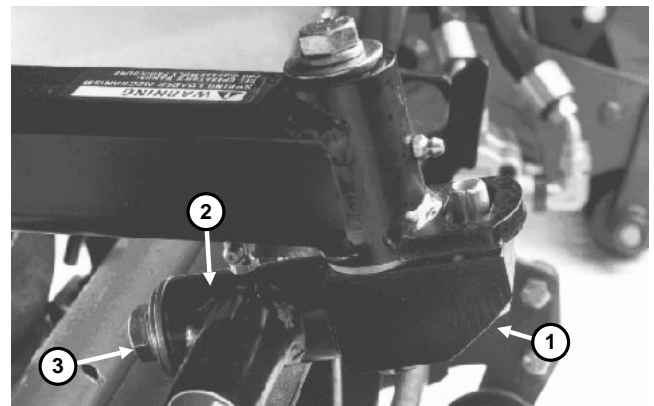

Figure 19
4. Remove capscrew, lock washer, flat washer and thrust washer from cutting unit mounting shaft (Fig. 19).